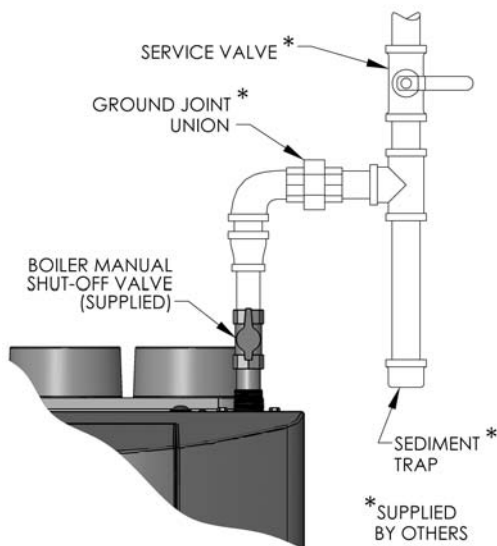

Figure 5.1: Gas Supply Pipe and Shut-off
2. Install a sediment trap as shown in Figure 5.1. Be sure to allow clearance from the floor or other horizontal surface for removal of the pipe cap.
4. Install a service valve as shown in Figure 5.1 to allow the gas supply to be interrupted for service.
7. Figure 5.1 shows the gas shutoff valve for the *PUREFIRE®* boiler. This valve is to be used in addition to the gas service valve shown upstream of the sediment trap.